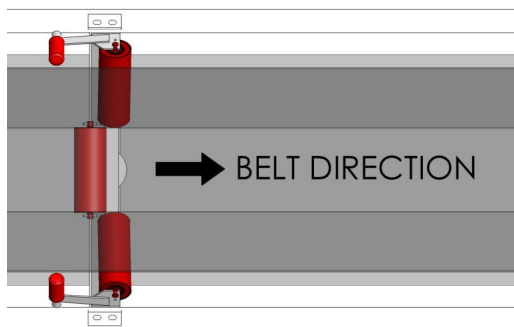

Figure 2.2 (above)
- When using a conventional belt tracking idler like the one shown in figure 2.2, the correct orientation and engagement is vital in the performance of the belt tracker.